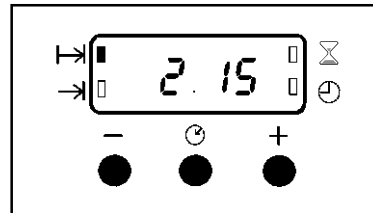

Fig.10.
- iii) To set the length of cooking time, press the Selector Control button until the 'Cook Time' indicator neon ($\text{H} \rightarrow$) indicator neon is illuminated. Press the increase control (+) until the required length of cooking time is displayed, e.g. 2 hrs 15 mins as Fig. 10. Depress the decrease control (-) if necessary.